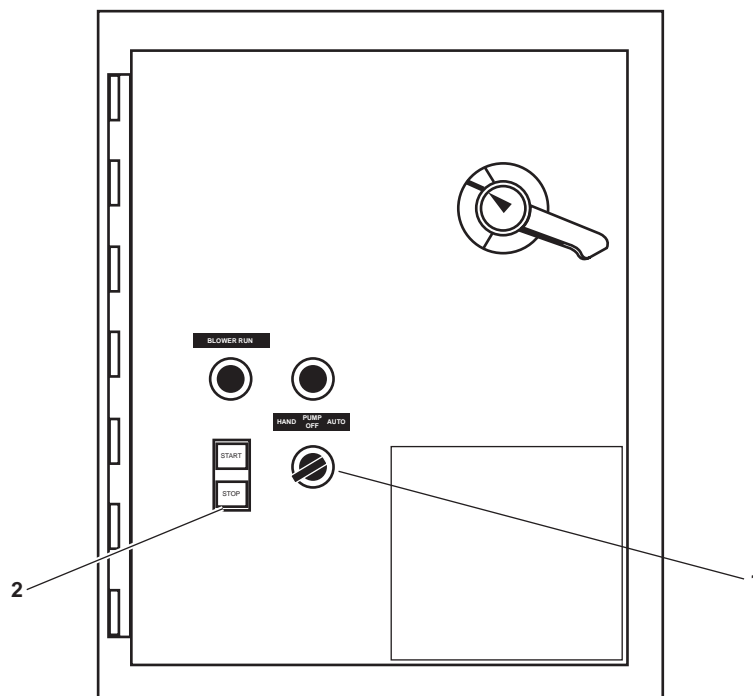

Figure 1. MSD Control Panel
2. Set the PUMP HAND/OFF/AUTO switch (figure 1, item 1) on the MSD control panel to OFF.
3. Set to OFF the aeration blower by pressing the STOP button (figure 1, item 2) on the MSD control panel.